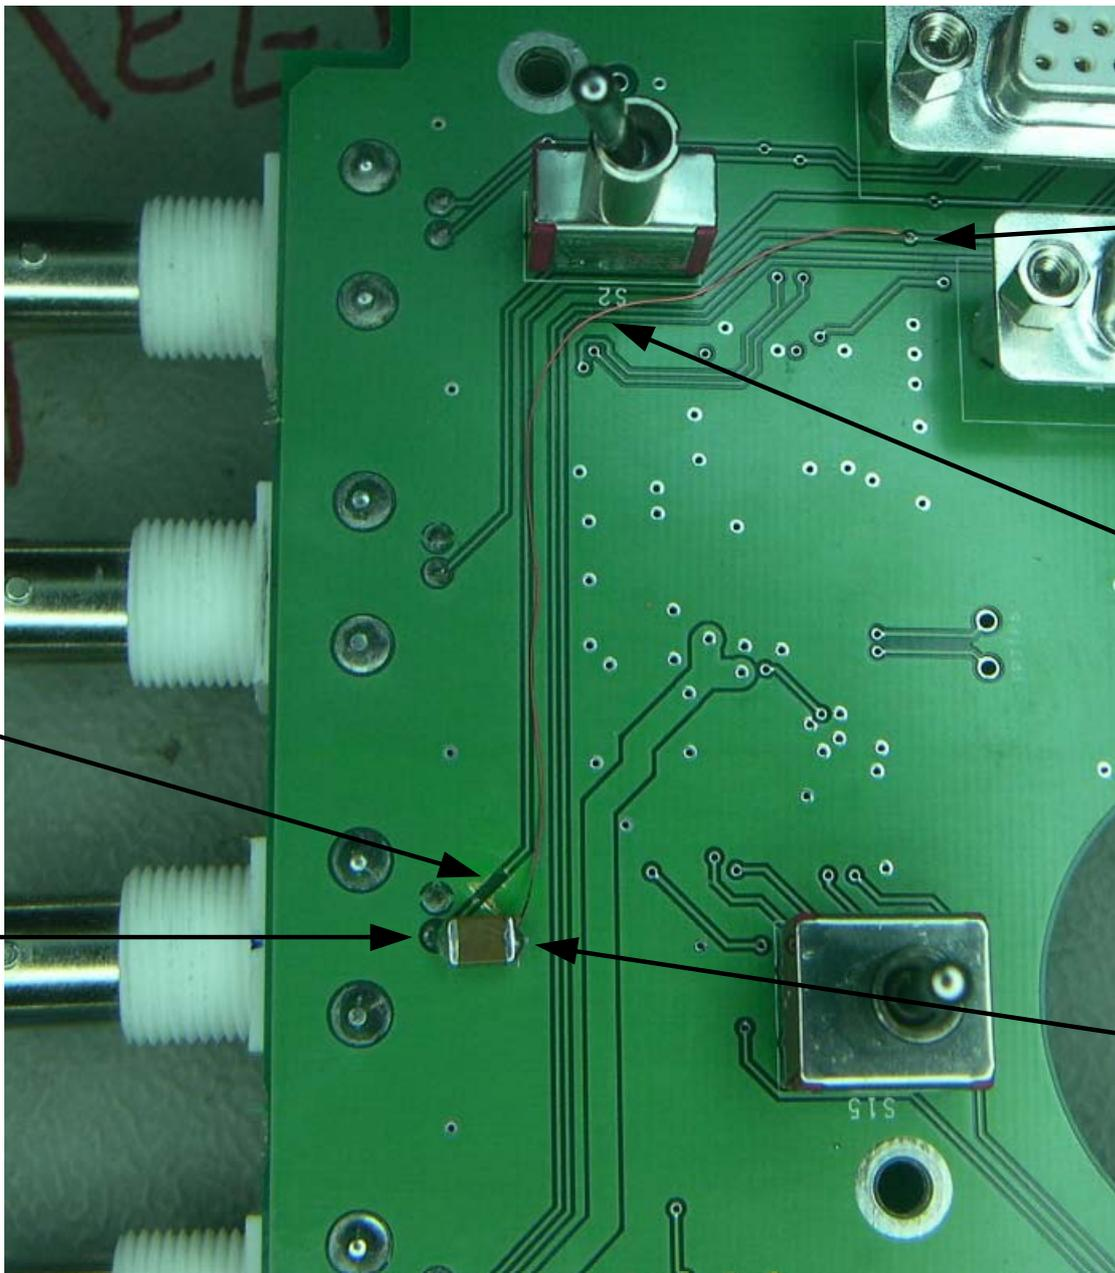

Figure 1. Finished modification showing 22uF Capacitor installed I series on the Unbalanced Input Line.
9. Refer to Figure 1 for the following instructions. Using a scalpel cut the track as shown. Solder one end of the capacitor to pin as shown. Using enamel wire, solder one end to the via shown, and the other end to the capacitor (see Figure 1). Take care not to overheat the capacitor when soldering to it.